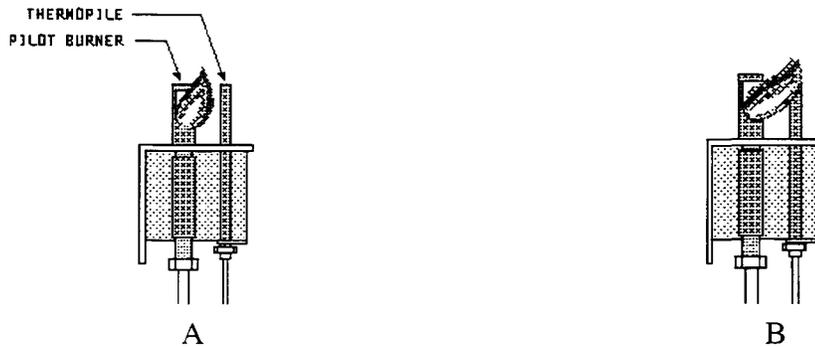

Figure 1-1 Pilot Assembly, Flame Adjustment
1.4.2.2 Pilot Flame Adjustment - The pilot flame should be adjusted to produce the proper millivolt output from the pilot sensing device. There are two types of pilot sensing devices thermopile or thermocouple. Millivolt output for the thermopile should be between 300 and 500 millivolts. Figure 1-1 shows the pilot assembly with examples of the incorrect and correct pilot size. Example A illustrates a pilot flame size that is too small to produce sufficient millivolt output. Example B is the correct size for proper millivolt output.